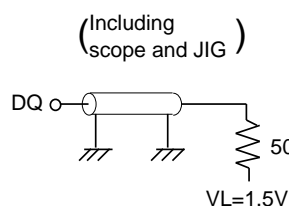
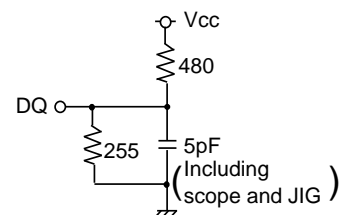

Fig.1 Output load
Fig.2 Output load for ten , tdis
Output loads ----- Fig1, Fig2
5. Transition is measured  $\pm 500\text{mv}$  from steady state voltage with specified loading in Figure 2.